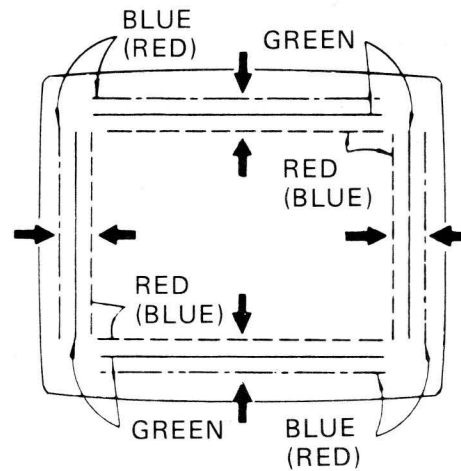

Figure 18. Dynamic Convergence B
4. Tilt the deflection yoke right and left. Insert tilt adjustment wedge ③ between the deflection yoke and the CRT until the misconvergence illustrated in Figure 18 has been corrected.